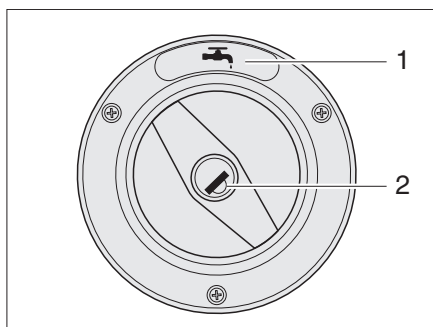

Fig. 9 Cap for the fresh water filler neck
▷ The fresh water filler neck is identified by the symbol ()" (Fig. 9,1) or the word "WASSER" ("WATER").
- Insert the key in the locking cylinder (Fig. 9,2) and turn it in an anticlockwise direction.